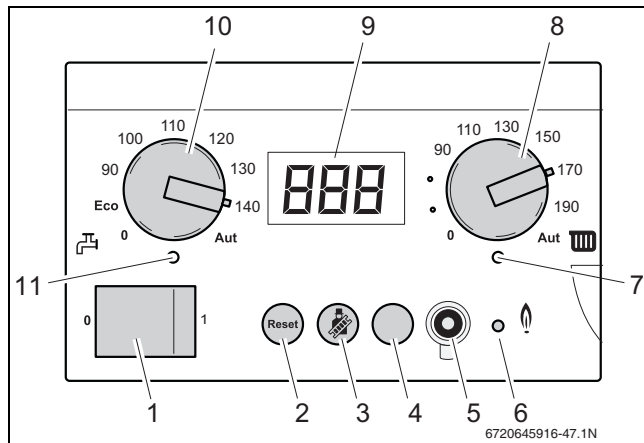

Fig. 70 BC10 basic controller
- ▶ Press and hold the  button (→ fig. 70, [3]) (approx. 2 seconds), until the dot in the right-hand bottom corner of the display (→ fig. 70, [9]) appears (→ table 12, page 31).
- ▶ After the “LED Burner operation” (→ fig. 70, [6]) has lit wait for 1 minute until the boiler is burning at full load.
- ▶ Press the “Chimney sweep”  button (→ fig. 70, [3]) to clear the reading (→ table 12, page 31).
- ▶ Switch OFF the heating system by pressing the main switch of the BC10 basic controller (→ fig. 70, [1]).
- ▶ Remove the flue gas analyzer and fit the cover back onto the flue gas measuring point (→ fig. 70, [1]).
- ▶ Switch ON the heating system by pressing the main switch of the BC10 basic controller (→ fig. 70, [1]).
- ▶ Switch OFF the appliance by pressing the main switch of the BC10 basic controller (→ fig. 70, [1]).
- ▶ Switch ON the appliance by pressing the main switch of the BC10 basic controller (→ fig. 70, [1]).
- ▶ After the LED Burner “operation” (→ fig. 70, [6]) has lit wait for 1 minute until the boiler is burning at part load.
- ▶ Press and hold the “Chimney sweep” (→ fig. 70, [3]) (approx. 2 seconds), until the dot in the right-hand bottom corner of the display (→ fig. 70, [9]) appears (→ table 12, page 31).
- ▶ Press the “Chimney Sweep” (→ fig. 70, [3]) button and hold it (for approx. 2 seconds), until the display shows the decimal point.